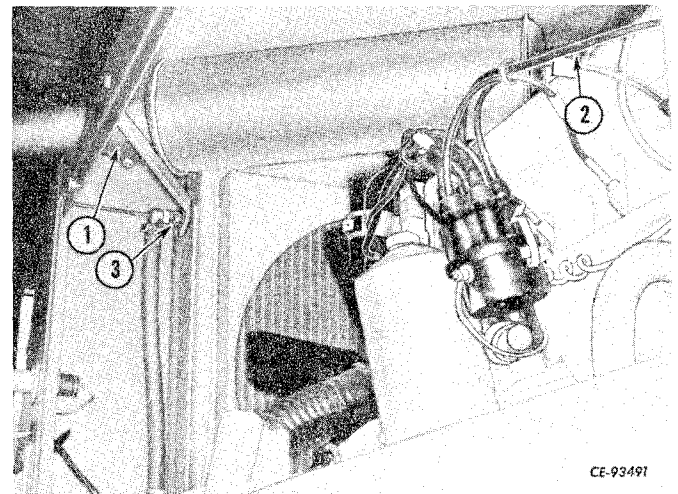

Figure 2-3
Remove muffler clamps (1, 2, Fig. 2-3). Disconnect radiator support bracket from radiator by removing cap screw (3) on each side.
Install and tighten muffler clamps (1, 2, Fig. 2-3). Install and tighten cap screw (3) securing radiator support bracket.